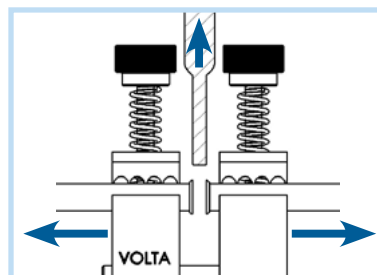

Fig. 8
2. Using the clamping nut (7), adjust the pliers, leaving a distance of  $8 \div 10$  mm between the platform (3) and the rider (8) (Fig. 8).
7. Release the pliers quickly and pull welder away (Fig. 8).